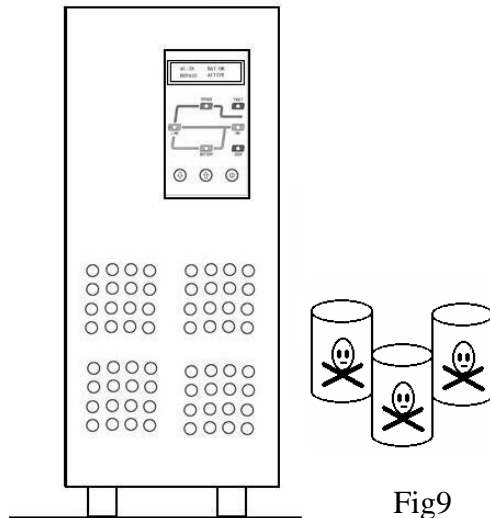

Fig9
- f. Free from moisture, flammable liquids, gasses or corrosive substances Fig9.